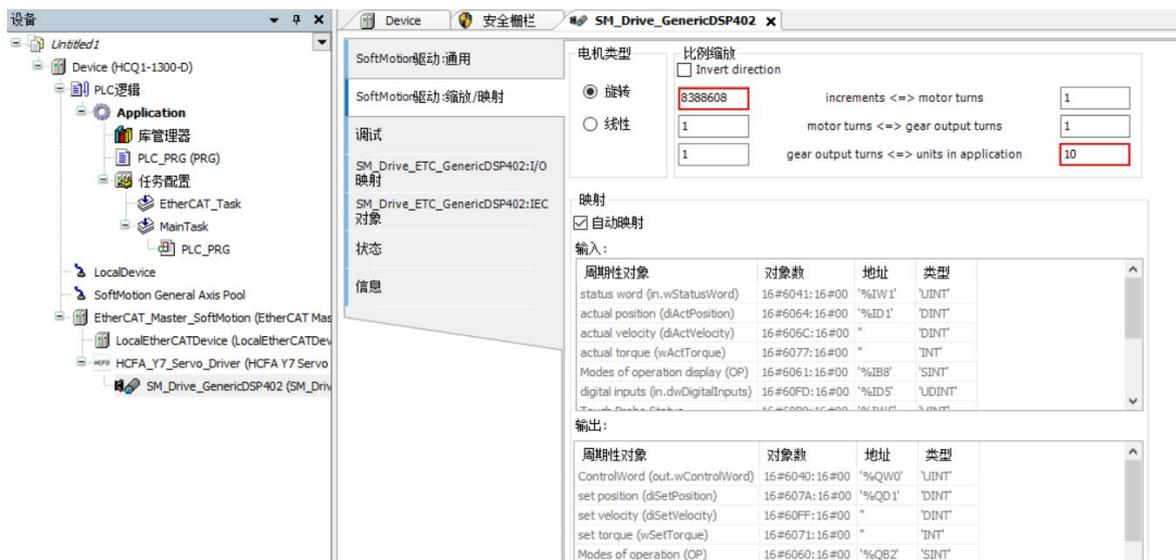

Figure 13-11 DSP402 axis configuration
5. Double-click to open [SM\_Drive\_GenericDSP402], as shown in Figure 13-11. Enter into [8388608] in increments to indicate that 8388608 pulses per motor revolution, and enter into [10] in units in application, indicating that the terminal load moves 10 for per motor revolution.